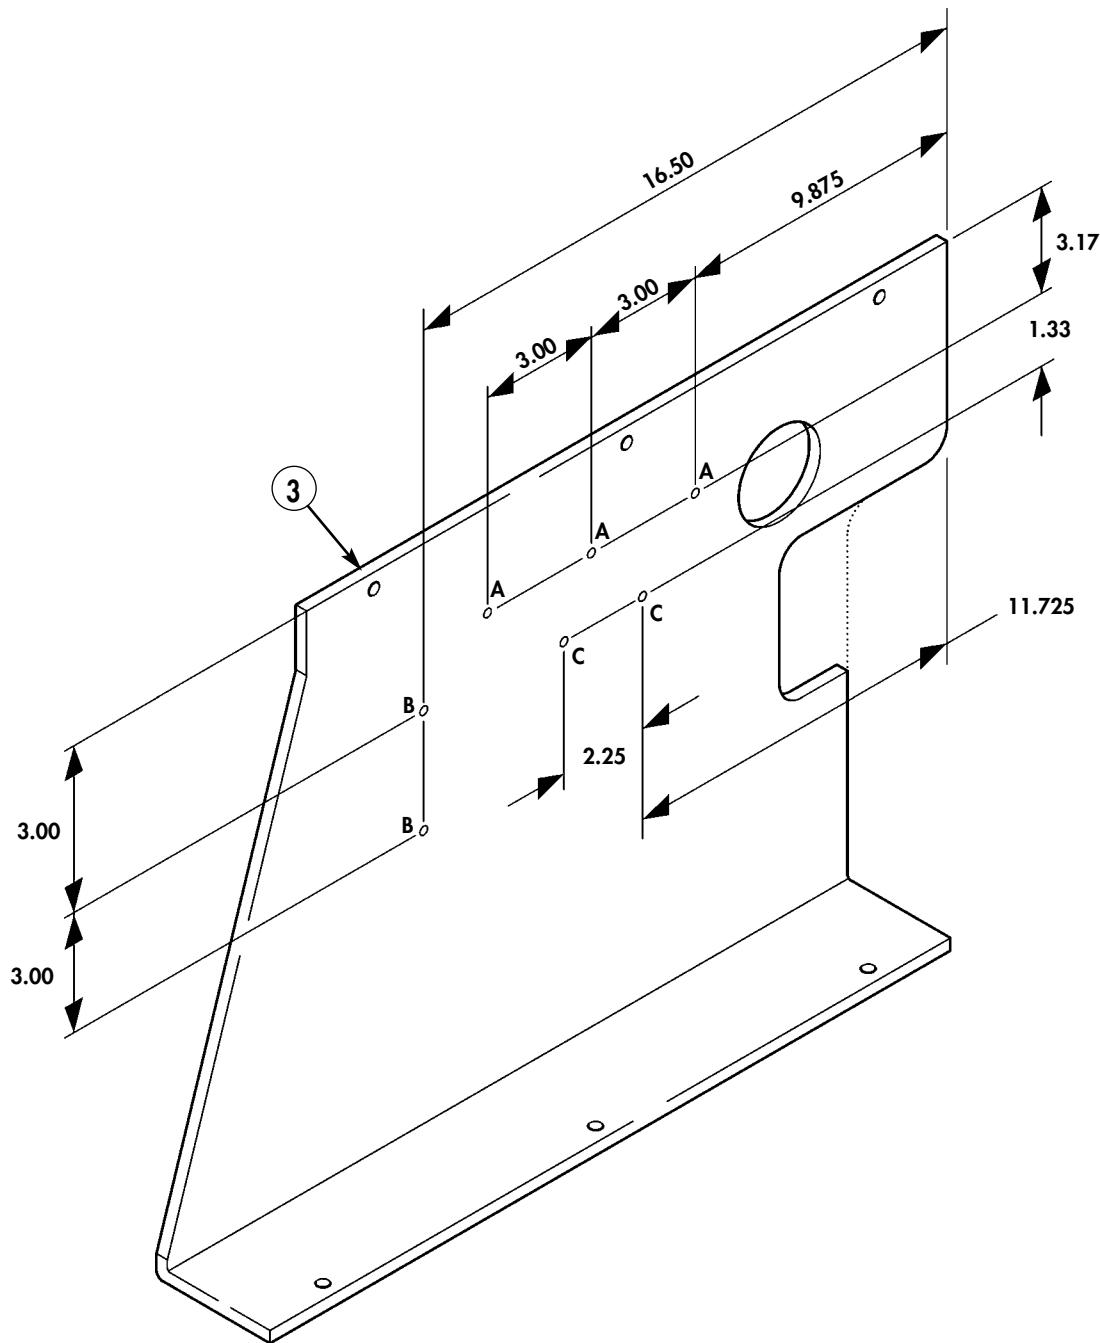

Figure 5-2.
- Use figures 5-2 and 5-3 to identify cab enclosure panel that is being modified.
- 3-3.** Locate, mark, and drill three 0.156-in. diameter holes marked A in cab enclosure panel (3) as shown in figures 5-2 or 5-3.
- 3-4.** Locate, mark, and drill two 0.156-in. diameter holes marked C in cab enclosure panel (3) as shown in figures 5-2 or 5-3.
- 3-5. Locate, mark, and drill two 0.196-in. diameter holes marked B in cab enclosure panel (3) as shown in figures 5-2 or 5-3.